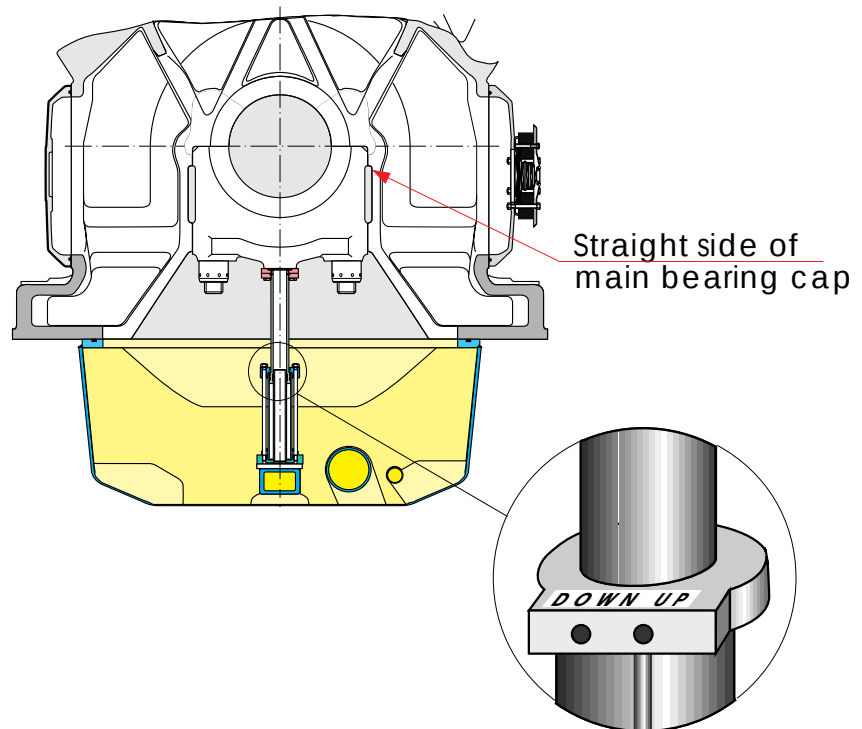

Fig 10-2
- 7** Lift the hydraulic tool 3V86B79 into position by using the tool 3V86B52 and proceed with opening of the main bearing nuts (B).
- 9** Connect the hoses of the hydraulic pump 1V86A18 to the hydraulic jack, the supplying hose set to the side marked DOWN, see Fig 10-2.
8 Connect the hoses of the hydraulic pump 1V86A18 to the hydraulic jack, the supplying hose set to the side marked UP, see Fig 10-2.
9 Connect the hoses of the hydraulic pump 1V86A18 to the hydraulic jack, the supplying hose set to the side marked DOWN, see Fig 10-2.
10 Connect the hoses of the hydraulic pump 1V86A18 to the hydraulic jack, the supplying hose set to the side marked UP, see Fig 10-2.